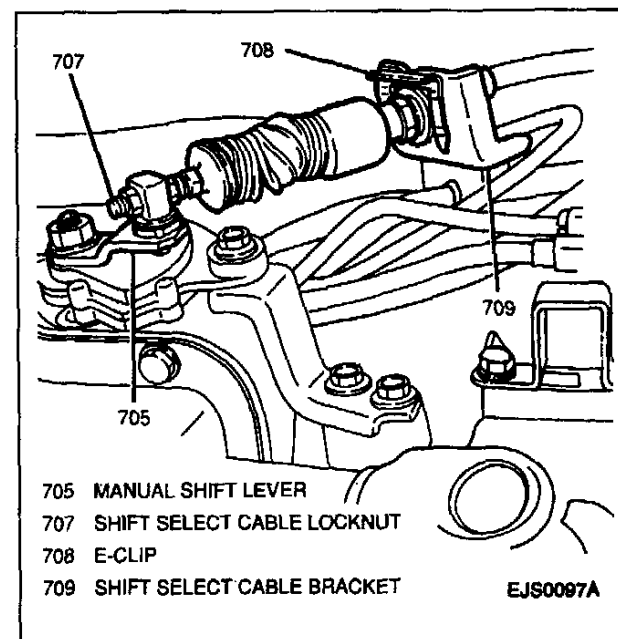

Figure 10—Shift Select Cable at Manual Shift Lever (Typical)
9. Select cable locknut and shift select cable from manual shift lever (Figure 10).